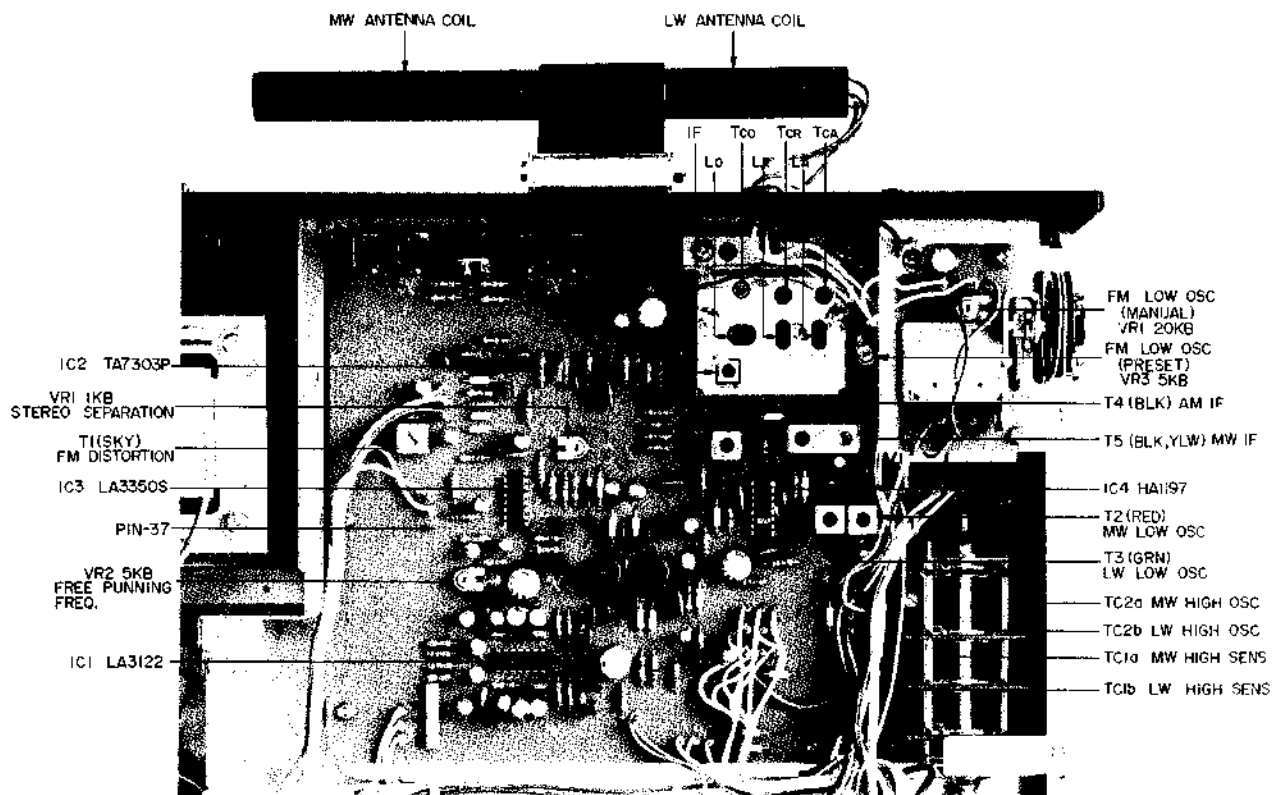

Fig. 22 Model AC-3800L
3. LW AND MW TUNER SECTION ADJUSTMENT FOR MODEL AC-3800L (Refer to Fig. 22)